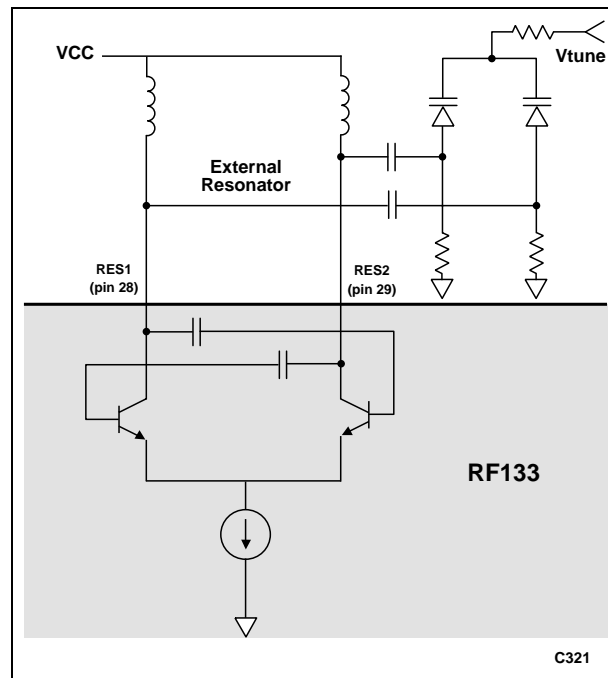

Figure 5. RF133 Internal VCO
**Internal Voltage Controlled Oscillator (VCO) and Frequency Dividers.** The differential VCO output is buffered and then fed to three frequency dividers (Rx, Tx, PLL) with a selectable divide ratio of either 2 or 4. The Rx and Tx dividers are both quadrature dividers, which generate in-phase and quadrature LOs. The buffered PLL divider output can be used to drive an external PLL IC. The resonant element of the VCO is connected to pins 28 (RES1) and 29 (RES2). Figure 5 shows the VCO configuration.